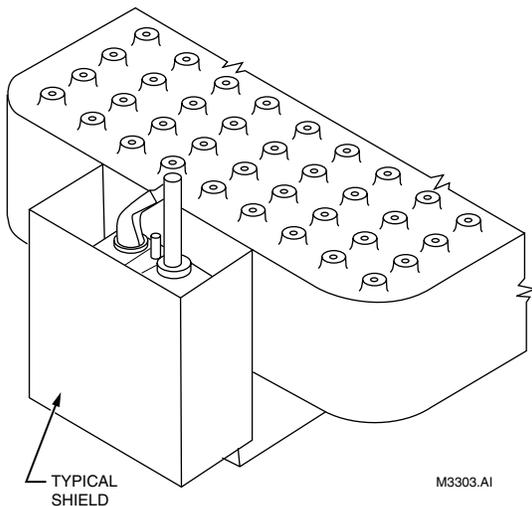

Fig. 25. Proper shielding of pilot flame (Q350 shown).
2. If all Location instructions are followed but pilot flame continues to go out, construct shielding to protect the pilot flame from the main burner ignition and extinction and drafts. See Fig. 25.
Excessive cold-junction temperatures can be caused by heat radiation from adjacent surfaces or high ambient air temperatures. Excessive cold-junction temperatures can be eliminated by shielding the pilot flame, see Fig. 25, or constructing a baffle to direct secondary air over the pilot burner base.